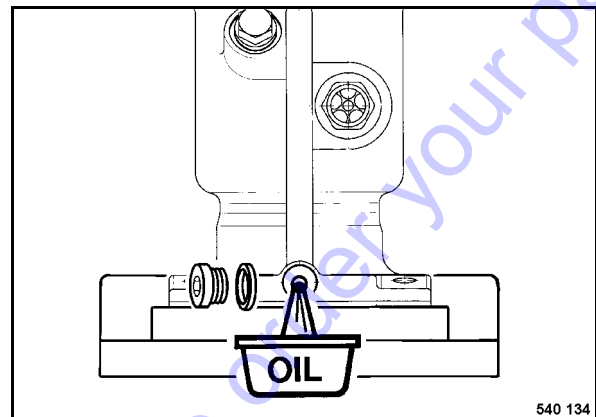

Fig. 75
- Clean and unscrew the oil drain plug (Fig. 75), let the old oil run out and catch it.